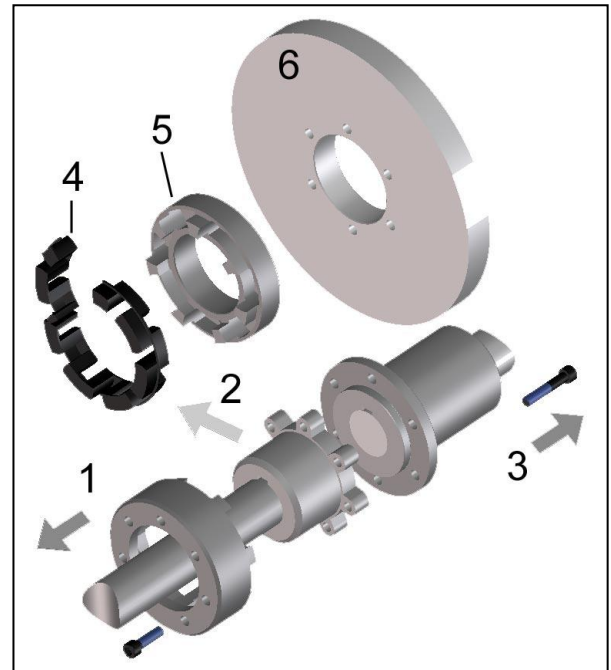

Fig. 12
- Remove the holding-down screws on the claw ring and push it back (Fig. 12, Pos. 1)
- Cut through the intermediate ring at a connecting joint (Fig. 12, Pos. 4).
- For replacing the brake disk, remove the cheese head screws (Fig. 12, Pos. 5) on the brake disk side. It is now possible to radially take out the claw ring (Fig. 12, Pos. 5) and to replace the brake disk (Fig. 12, Pos. 6). If the brake drum needs to be replaced, one of the coupling halves has to be moved axially.